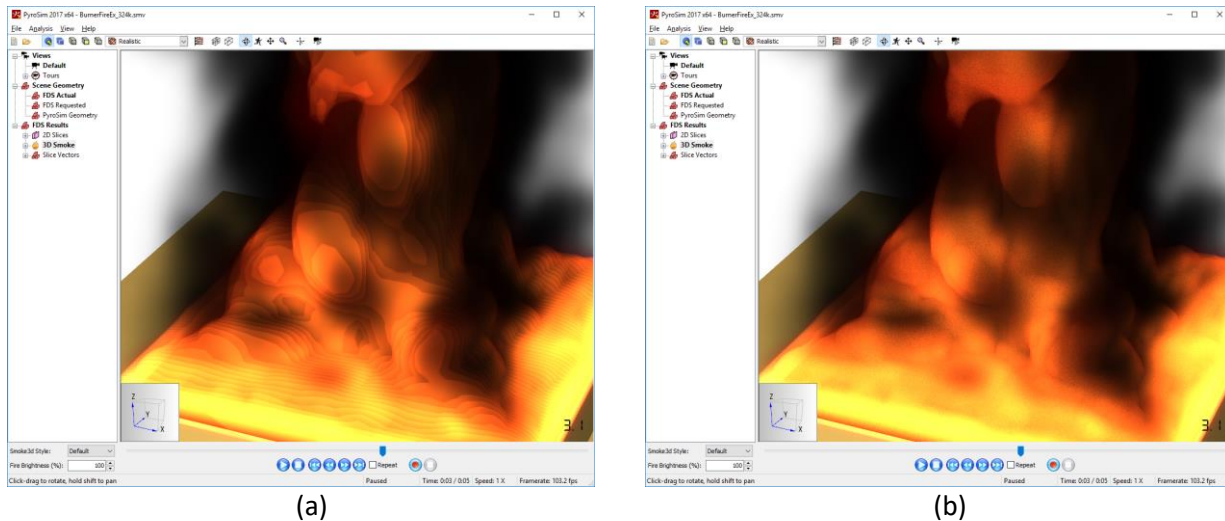

Figure 4-8: Reduce banding artifacts option: (a) off (b) on
- **FDS Smoke/Fire->Reduce banding artifacts:** This option is only available when using the hardware shaders algorithm. It reduces banding artifacts that may be visible when the ray-marching sampling frequency is too low for the fire data as seen in Figure 4-8. It counters the banding effect by using a dithering pattern that is generally more visually pleasing. It negatively impacts the rendering speed very slightly, but is still much faster than the alternative, which is to increase the **Sampling Factor**.